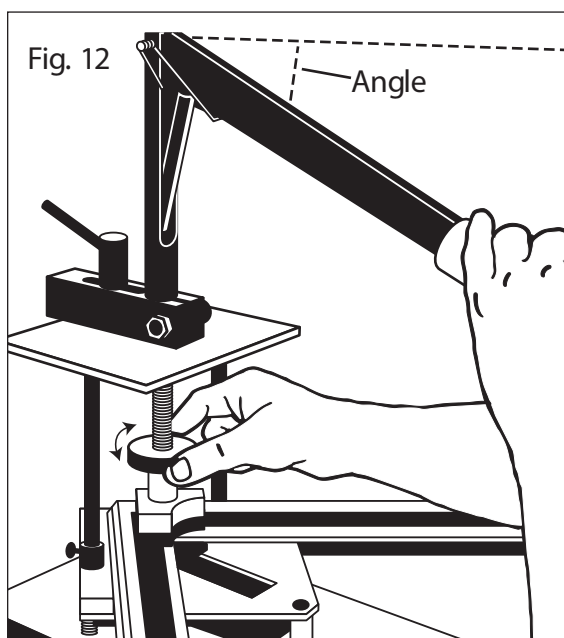

Fig. 12
3. Adjust pressure foot by turning wheel until it contacts moulding and handle is below horizontal (Fig. 12).